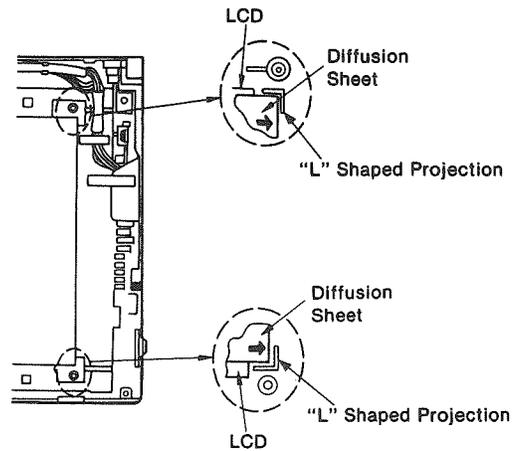

Figure 37A
- When reassembling, place the diffusion sheet inside the "L" shaped projections as shown in Figure 37A.